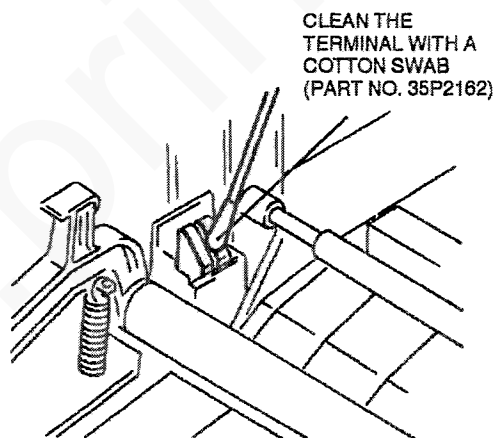

Figure 2. Left high voltage terminal cleaning
4. (Figure 2) Clean the terminals and contacts of the left high voltage connectors,